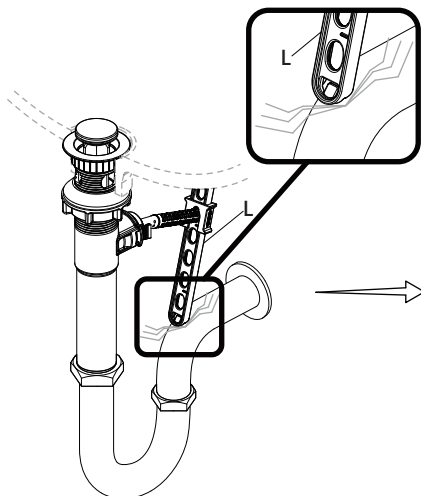

Fig. 1
- If the pop up lift rod strap (L) is interfering with your installation, as shown in Fig. 1, the lift rod strap (L) can be cut shorter.